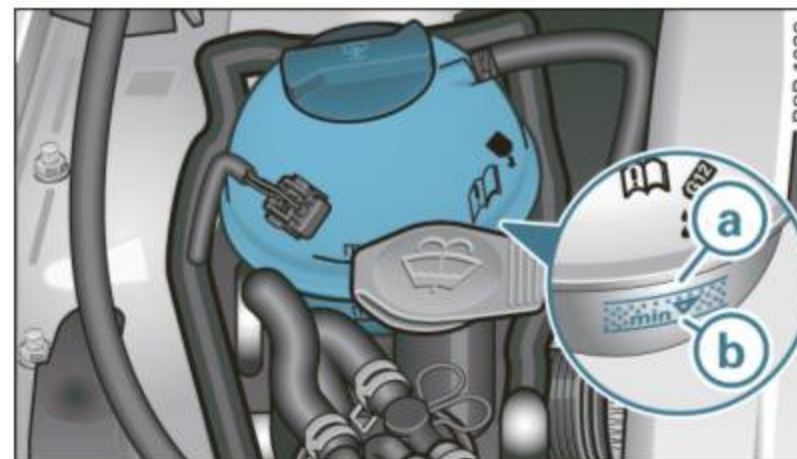

Fig. 190 Engine compartment: coolant expansion tank
- Read the engine coolant level from the coolant expansion tank ⇒ fig. 190. With a cold engine, the coolant level should be between the “min” and “max” markings. When the engine is warm, the level may be slightly above the “max” marking.
- Place a thick rag over the coolant expansion tank ⇒ *page 261*, fig. 190 and **carefully** twist the cap counter-clockwise ⇒ .